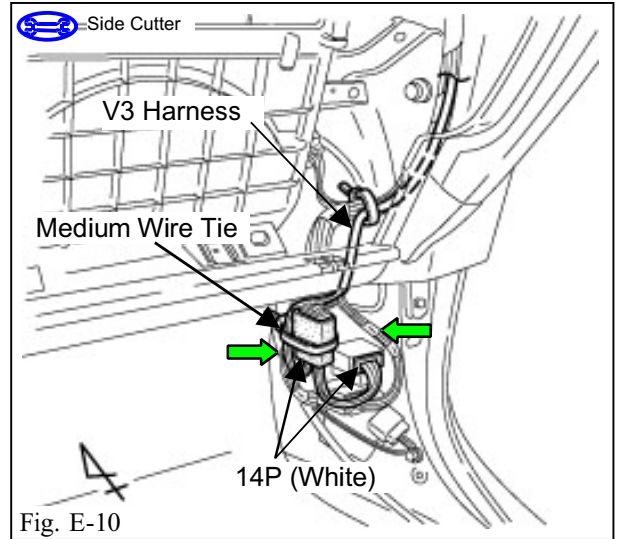

Fig. E-10
13. Plug in the V3 harness' white 12P connectors between the vehicle harness white 12P connector and the passenger side cowl area. (Fig. E-10)
14. Secure the 12P connectors to the vehicle harness with one medium wire tie. (Fig. E-10)